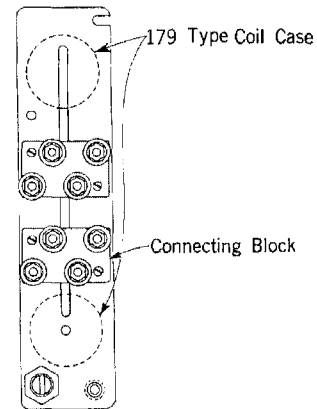

Fig. 4 — Mount Equipment on Terminal Plate
2.04 The terminal plate has one two-pair connecting block mounted on it. There is space for mounting a second block. The second block must be ordered separately as a *Block, Connecting, for (D or E) Buried Wire Terminal*. It is mounted by means of the small bolts furnished with it. There is also space for mounting two 179 Type Coil Cases. They are located on the terminal plate as shown in Fig. 4.